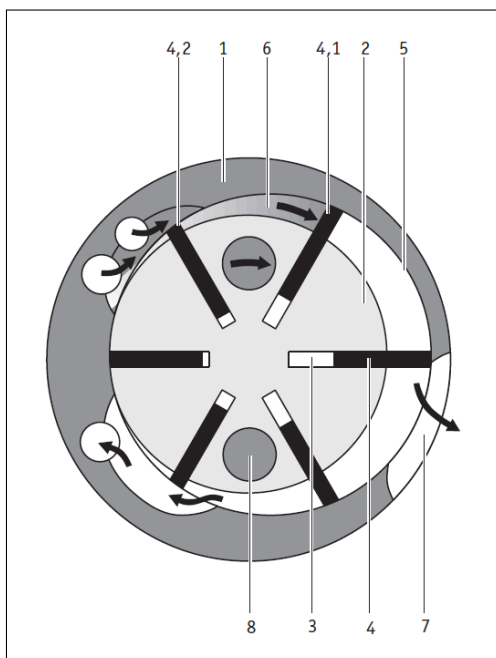

Figure 4: Functioning of the compressed air vane motor
The vane motor (↔ Figure 4) consists of a cylinder liner (1) with two lateral bearing washers and an inner rotor (2).